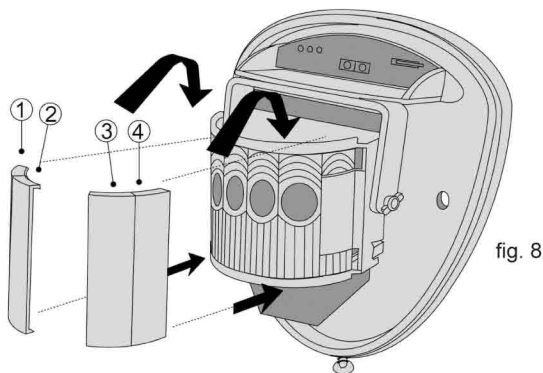

fig. 8
- The detector module is fitted with two sliding shutters to reduce the detection angle. An additional set of curtains is provided should the beam pattern need to be narrowed even further e.g. if the minimum detection angle of 10 degrees is required. The curtains are fitted to the pan and tilt module as indicated in fig. 8 below. Each section or the detector's lens gives a coverage pattern of approximately 10 degrees. **See fig. 8.**